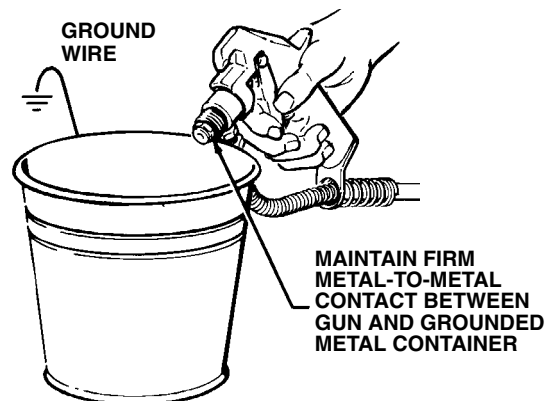

Fig 8
6. Disengage the gun safety latch. Point the gun into a metal waste container. With metal part of the gun firmly touching the metal container, squeeze the gun trigger. See Fig 8. This procedure reduces the risk of static sparking and splashing. Start the sprayer, trigger the gun, and slowly turn the pressure adjusting knob clockwise just until the pump starts. Keep the gun triggered until clean solvent comes from the nozzle. Release the trigger and engage the gun safety latch.